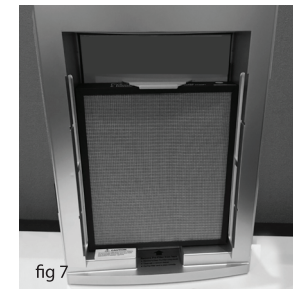

fig 7
- Reinstall the 6-stage prefilter and the front cover. (fig 7)